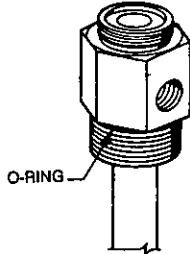

FIGURE 4
10. Examine threads on each tank adaptor and tank collar for nicks, burrs, or cross-threading. Clean and coat O-ring with a good grade of extreme temperature grease. Make certain bursting disc is in place and silver side is away from tank. Clean seating surface and return adaptor/tube assembly to each tank. Tighten securely. See Figure 4.